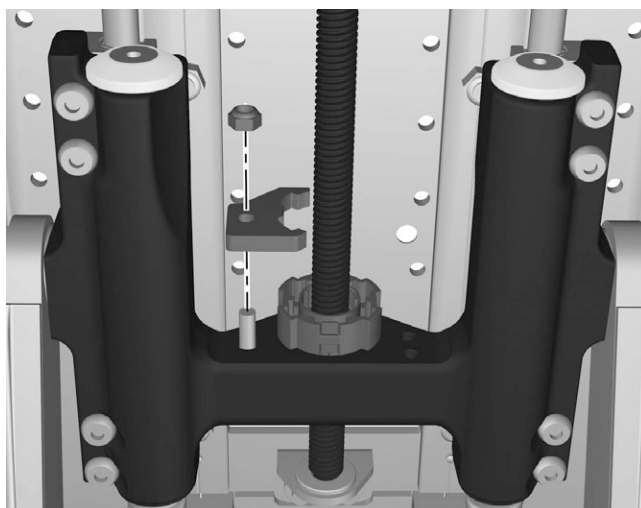

Figure 126. Assemble the nut lock.
3. Assemble the nut lock. Loosen the nut a bit to make the nut lock fit. The nut should not be completely flush with the surface. See fig. 126.